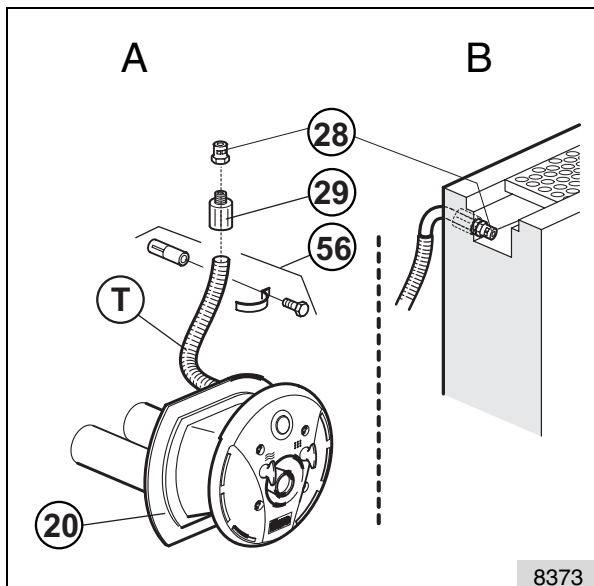

fig. 23
Fasten the non-return air valve (28) with the fixing bracket (56) to the pool wall or similar. In the case of a ground level overflow, place the non-return air valve (28) in the duct, see fig. 23, detail B.